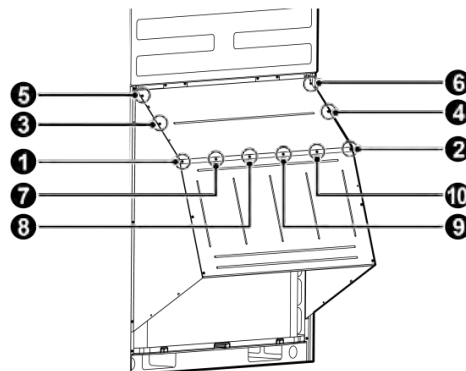

Fig. 3.37
(1) Please refer to Fig 3.37 for the installation location and sequence of screws.